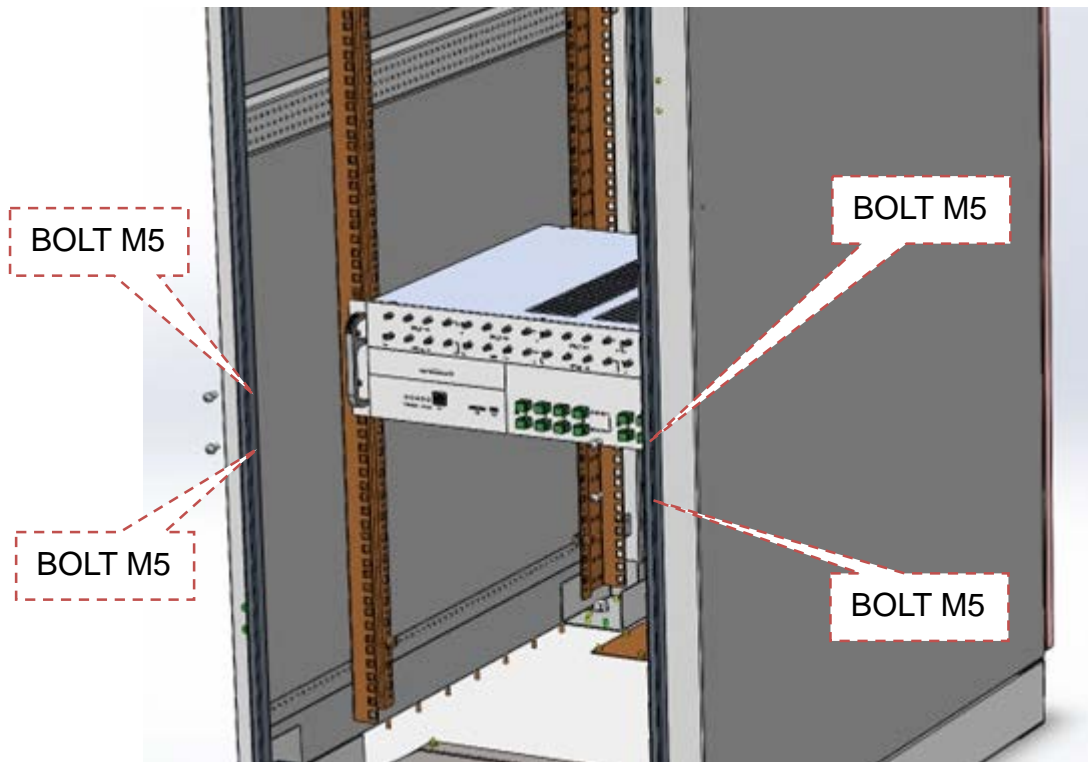

Figure 4-4 Use screw to mount PBMU
3. Use screw to mount PBMU, as shown in Figure 4-4.